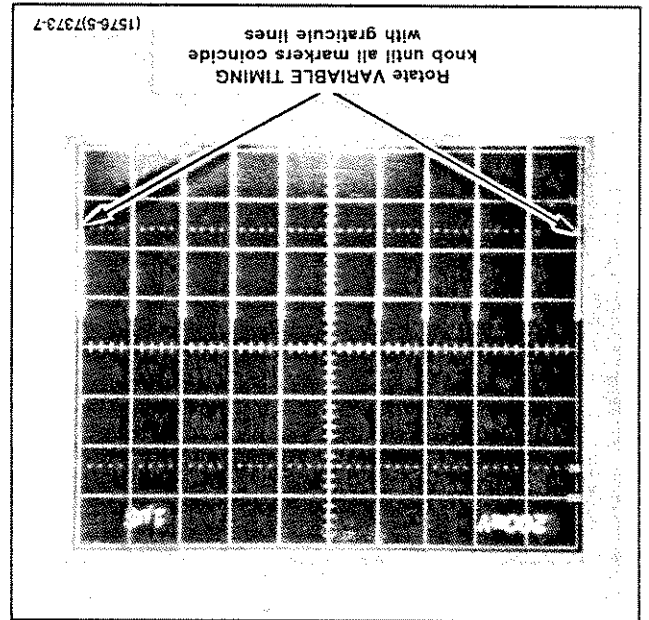

Fig. 2-4. Measuring timing error of time base.
8. Rotate the VARIABLE TIMING knob until all time markers coincide with graticule lines on the oscilloscope, as shown in Figure 2-4.